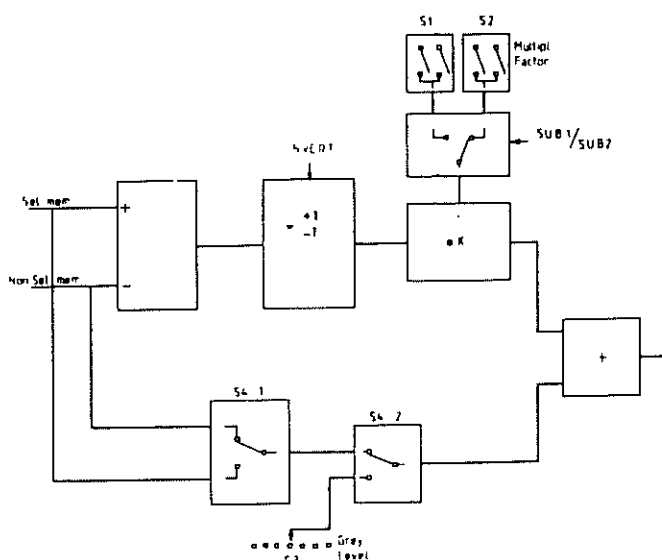

Figure 3 : Simplified diagram of the Subtractor.
Figure 3 gives a simplified diagram of the subtractor.
- LSUB 1 or LSUB 2 selects the multiplication factor which is set by the switches S1 and S2 (see fig. 3).
- Addition is filled in by the switches S4.1, S4.2 and S3. (See fig. 3).